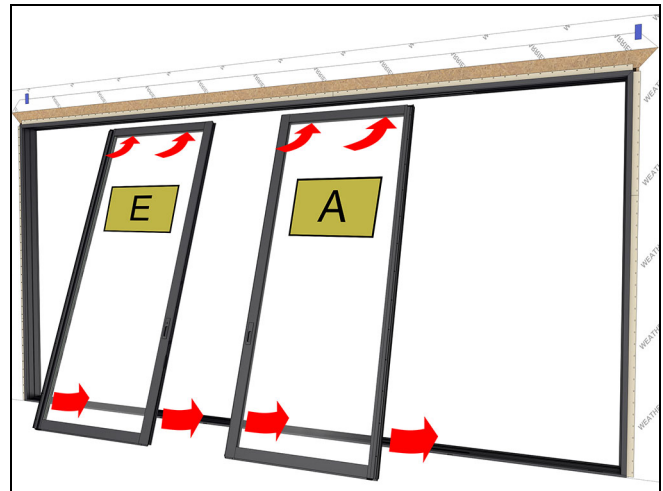

Figure 131
4. Install the (A) primary panel and (E) inactive panel on the interior track. See Figure 131.